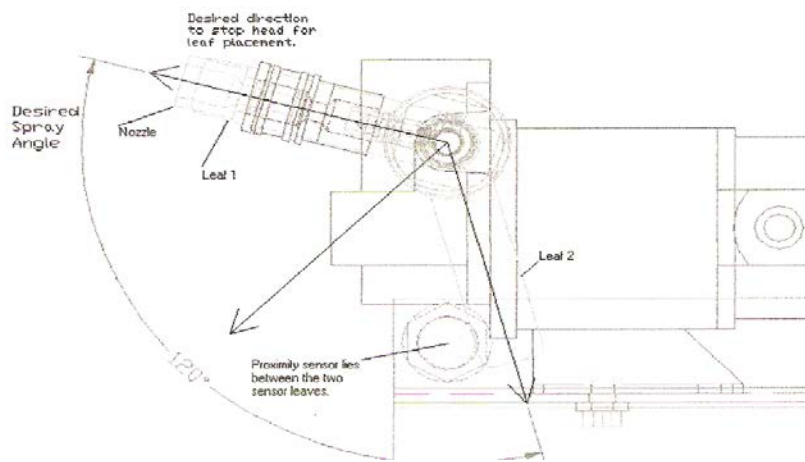

Figure 2.5
2.1.8.3 Verify that the proximity sensor lies between the two leaves in the direction of the spray. See Figure 2.5 and Figure 2.5 A.